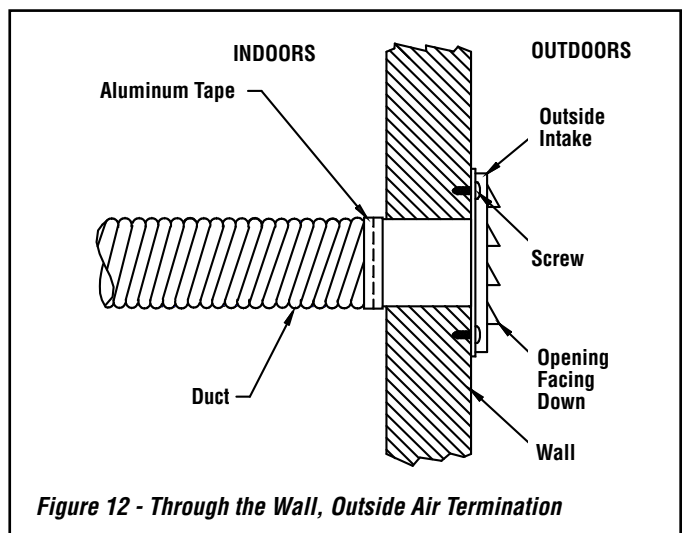

Figure 12 - Through the Wall, Outside Air Termination
- The air intake register must not be installed more than ten (10) feet above the base of the stove.
- Make a 4-1/4" hole in the outside wall of the house at the chosen location. From outside, place the outside air register in the hole (open side down) and fasten the register to the wall, with screws as shown (see **Figure 12**).
- Attach the duct to the coupler on stove (see **Figure 12**). Using the aluminum tape provided, wrap the tape around the joint between the flexible duct and the air inlet.